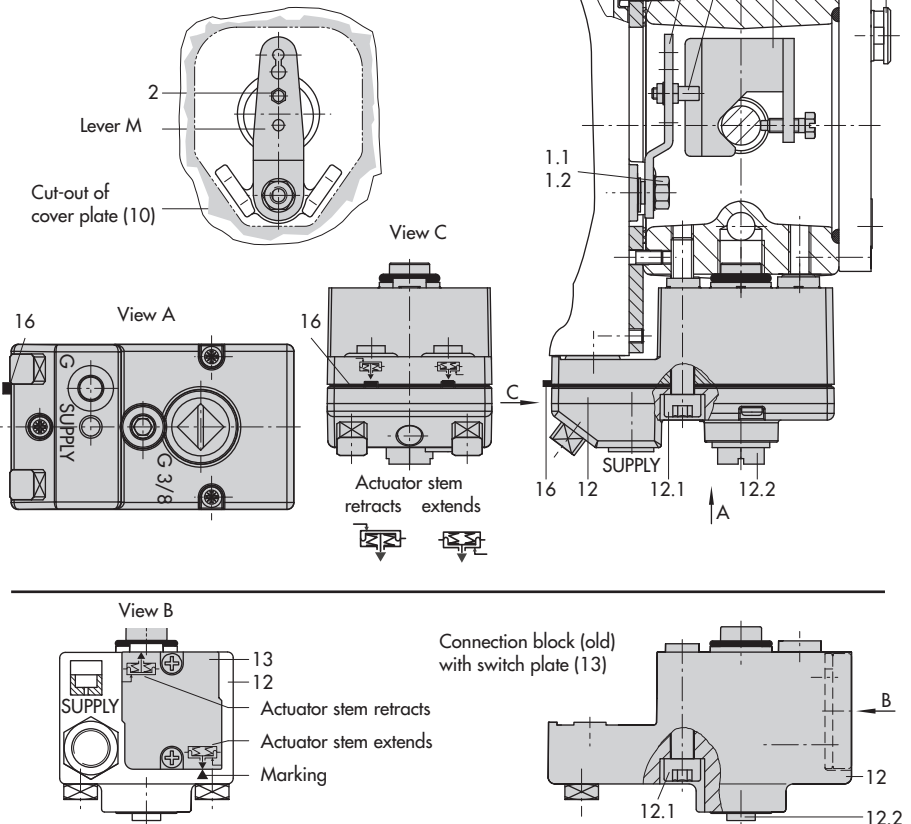

Fig. 5 · Direct attachment – Signal pressure connection for Type 3277 Actuator with 175 to 750 cm²
Mount the positioner on the yoke as shown in Fig. 5. The signal pressure is routed to the actuator over the connection block (12), for actuators with fail-safe action "Actuator stem extends" internally through a bore in the valve yoke and for "Actuator stem retracts" through external piping.
1. Place follower clamp (3) on the actuator stem, align and screw tight so that the mounting screw is located in the groove of the actuator stem.
2. Mount cover plate (10) with narrow side of the cut-out opening (Fig. 5, on the left) pointing towards the signal pressure connection. Make sure that the bonded gasket (14) points towards the actuator yoke.
3. For actuators with 355, 700 and 750 cm², remove the follower pin (2) at lever **M** (1) on the back of the positioner from pin position **35**, reposition it in the bore for pin position **50** and screw tight. For actuators 175 to 350 cm² with 15 mm travel, the follower pin (2) remains in pin position **35**.
4. Insert formed seal (15) in the groove of the positioner casing.
6. Make sure that the tip of the gasket (16) projecting from the side of the connection block (12) is positioned above the actuator symbol that corresponds with the actuator with fail-safe action "Actuator stem extends" or "Actuator stem retracts." If necessary, remove the three fixing screws and the cover. Then reposition the gasket (16) turned by 180°. The previous version of the connection block (Fig. 5, bottom) requires the switch plate (13) to be turned such that the corresponding actuator symbol points to the marking.
7. Place the connection block (12) with the associated seal rings against the positioner and the actuator yoke. Screw it tight using the fixing screw (12.1). For actuators with fail-safe action "Actuator stem retracts", additionally remove the stopper (12.2) and fit on the external signal pressure piping.
8. Mount cover (11) on the other side. Make sure that the vent plug points downwards when the control valve is installed to allow any condensed water that collects to drain off.